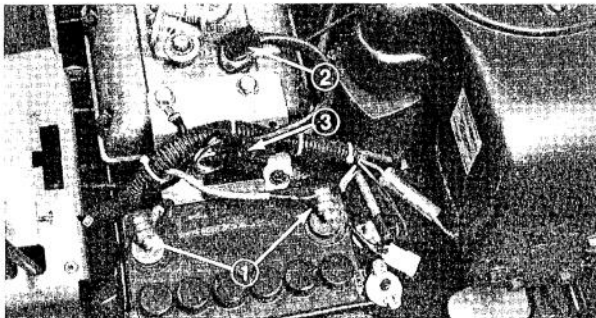

Figure 42
1. Make sure wires on starter motor terminal and battery terminals are secured tightly (Fig. 42).
2. Make sure two wires are connected to transmission interlock switch (Fig. 42).
3. Push module connectors together to assure a connection (Fig. 42).